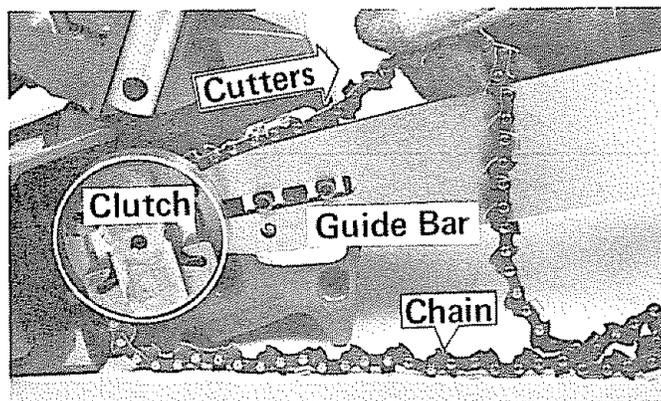

Figure 3
3. Fit the chain over the clutch and onto the guide bar. Be sure the cutters face the way shown in Figure 3 and that the drive link tangs engage the sprocket teeth. On Craftsman 2 3PS engage chain drive links in groove of rim sprocket teeth.
4. With the adjusting pin fitted into the bar (Figure 3), replace guide plate, bar clamp, washer, and tighten the bar mounting screw FINGER TIGHT.